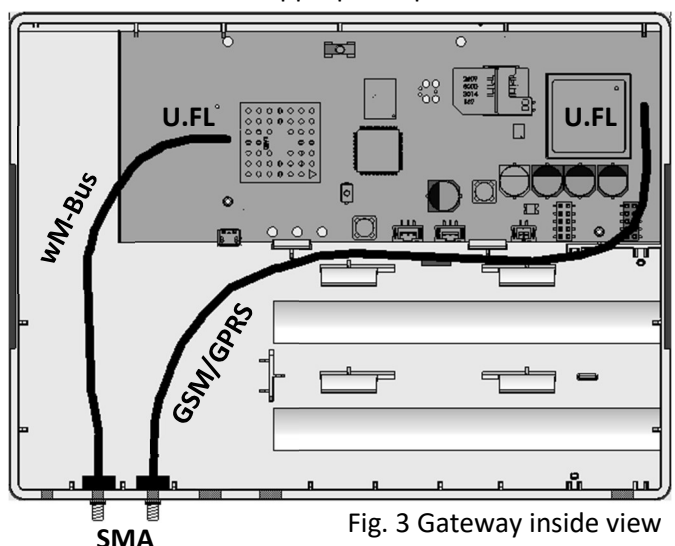

Fig. 3 Gateway inside view
- On the left bottom of the case you will find 5 predetermined breaking points. The second one is for wireless M-Bus and the third one for GSM/GPRS (see Fig. 3).
- The plug for wireless M-Bus is on the left, for GSM/GPRS on the right side of the circuit board (see Fig. 3).